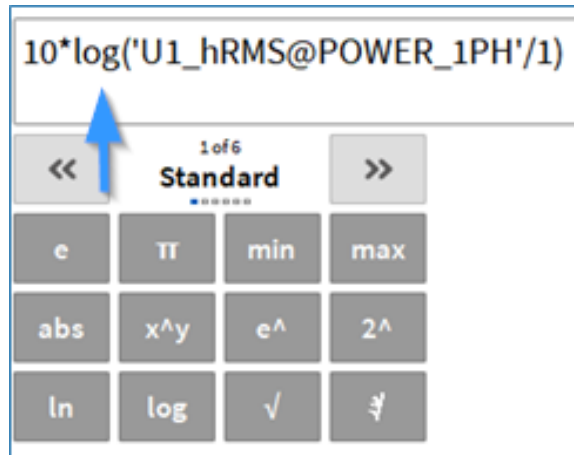

Fig. 7.70: Standard operators in combination with array channels
- Standard operators (see Fig. 7.70)